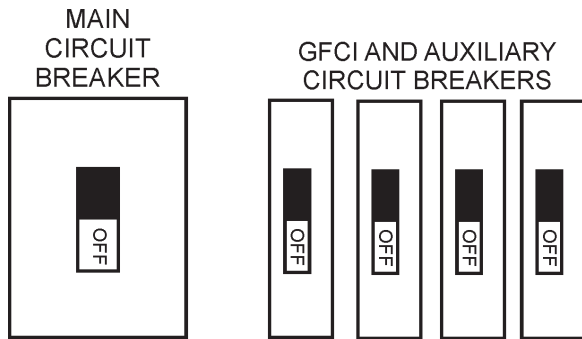

Figure 25. Main, GFCI, and Auxillary Circuit Breakers (OFF)
- Place the **main, G.F.C.I.**, and **aux.** circuit breakers (Figure 25) in the **OFF** position prior to starting the engine.
1. Place both the **main**, **GFCI**, and **aux.** circuit breakers as shown in Figure 25 to the **OFF** position.
2. Place both the **main**, **GFCI**, and **aux.** circuit breakers as shown in Figure 25 to the **OFF** position.